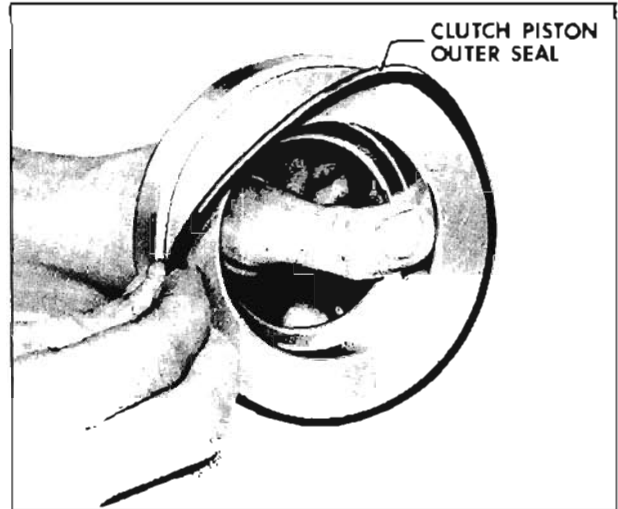

Fig. 6-362 Installing Outer Seal
4. Lubricate with transmission oil and install new forward clutch piston outer seal in clutch piston. Seal lip must point down. (Fig. 6-362)